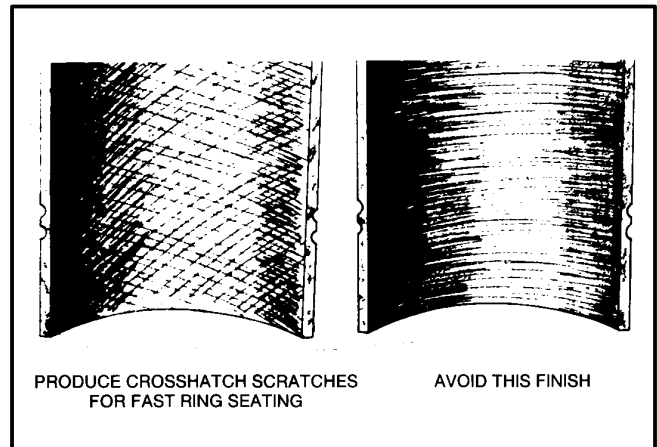

FIGURE 10-20. CROSSHATCHING
3. Use a slow speed drill to drive the deglazing tool. Move the deglazing tool up and down in the cylinder (10 to 12 complete strokes) rapidly enough to obtain a crosshatch pattern as shown in Figure 10-20.